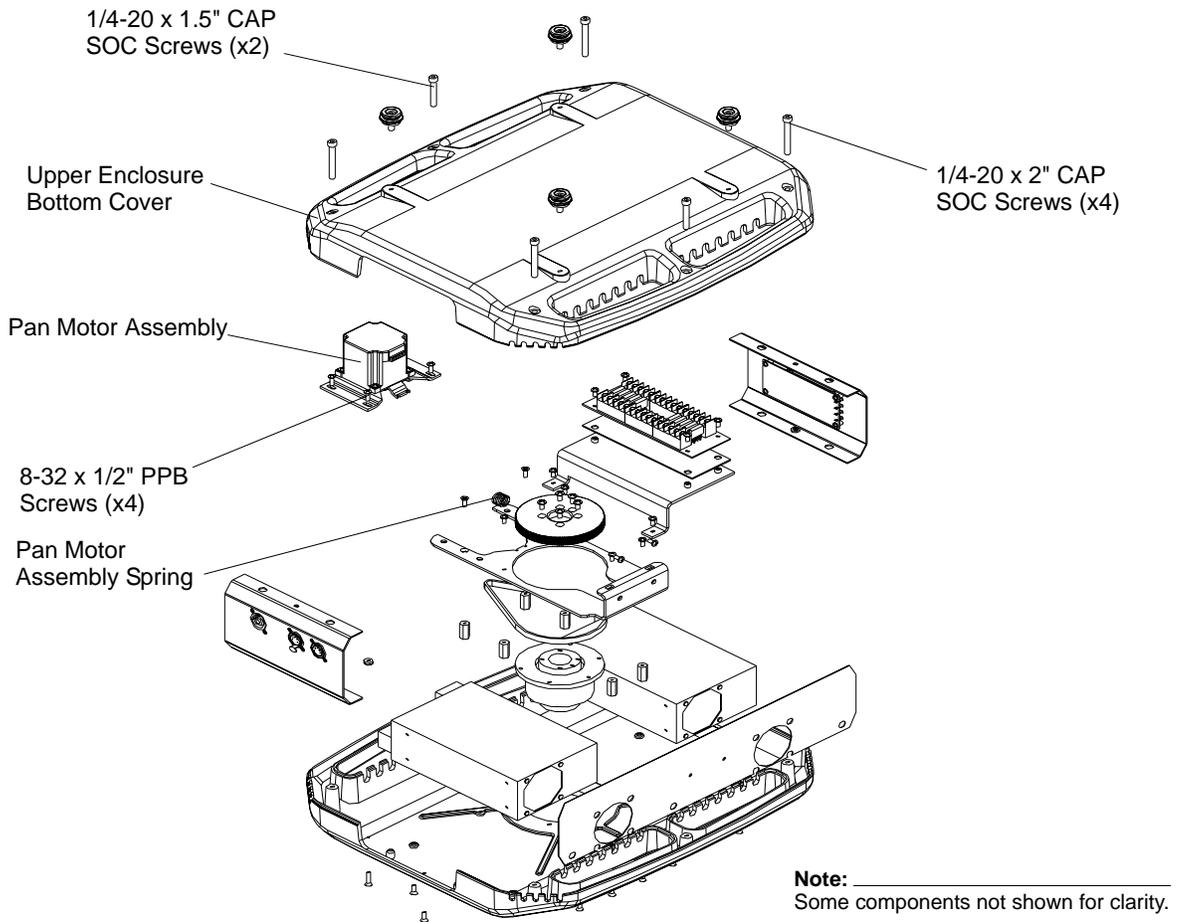

Figure 2-60: VLX Wash Pan Motor Assembly
- Step 3. Using 3/16" hex wrench and as indicated in Figure 2-60, remove four 1/4-20 x 2" CAP SOC screws and two 1/4-20 x 1.5" CAP SOC screws and remove base cover.
Step 6. As shown in **Figure 2-60**, remove four 8-32 x 1/2" PPB screws that mount motor assembly